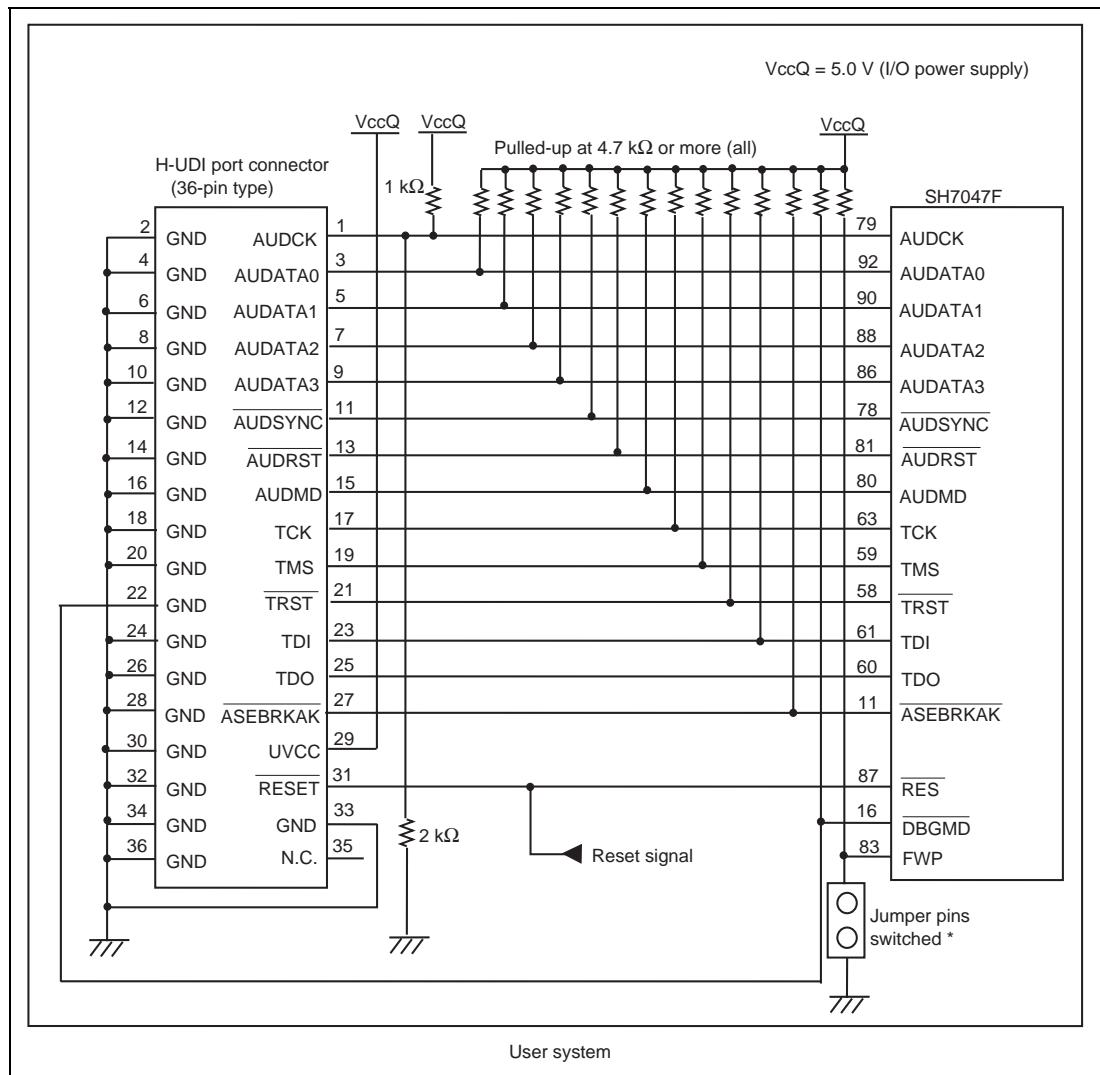
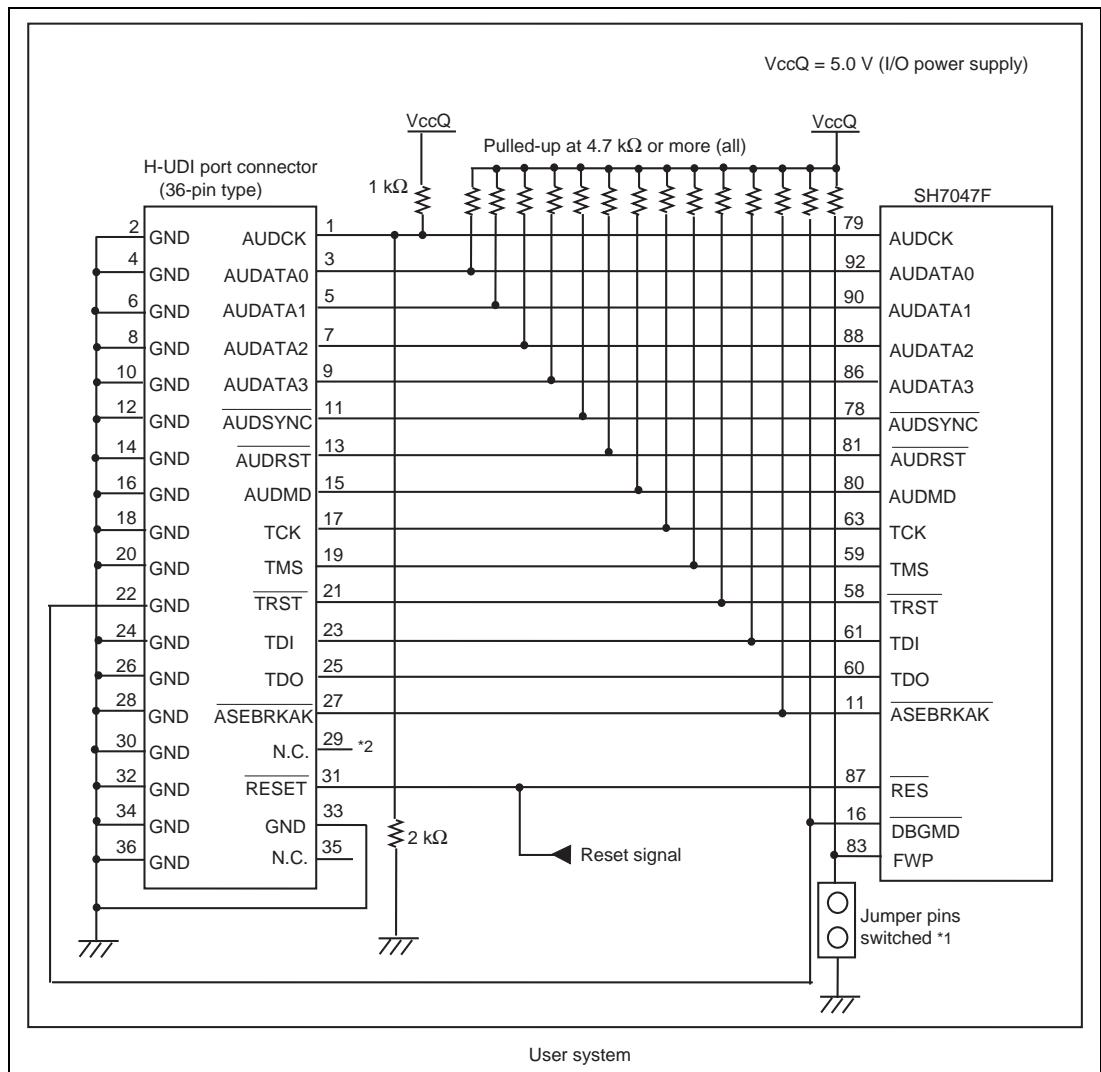

Figure 1.3 Recommended Circuit for Connection between the H-UDI Port Connector and MCU when the Emulator is in Use (36-Pin Type UVCC Connected)
Figure 1.4 Circuit for Connection between the H-UDI Port Connector and MCU when the Emulator is in Use (36-Pin Type UVCC Not Connected^{*2})
Figure 1.3 shows a recommended circuit for connection between the H-UDI and AUD port connectors (36 pins) and the MCU when the emulator is in use. Figure 1.4 shows a circuit for connection when UVCC is not connected.
- (1) When the emulator is used: /DBGMD = 0 (ASE mode)
- (2) When the emulator is not used: /DBGMD = 1 (normal mode)Figures 1.3 and 1.4 show examples of circuits that allow the /DBGMD pin to be GND (0) whenever the emulator is connected by using the user system interface cable. When the /DBGMD pin is changed by switches, etc., ground pin 22. Do not connect this pin to the /DBGMD pin.
7. When the power supply of the user system is turned off, supplying VccQ of the user system to the UVCC pin reduces the leakage current from the emulator to the user system. Buffers that can be activated by the internal power supply or user power supply (changed by the switch) are installed in the interface circuit of the emulator. If the user power is selected for supply to the UVCC pin, the buffers will not be activated unless supplied with user power. Thus no current flows from the user interface when the power supply of the user system is turned off. The I/O voltage level of the user system interface can be the same as that of the VccQ. To operate the emulator with low voltage (lower than 5.0 V), the VccQ must be supplied to the UVCC pin. Make the emulator's switch settings so that the VccQ will be supplied (SW2 = 1 and SW3 = 1) (as shown in figure 1.3).
8. The resistance values shown in figures 1.3 and 1.4 are recommended.
When the circuit is connected as shown in figure 1.3, the switches of the emulator are set as SW2 = 1 and SW3 = 1. For details, refer to section 3.8, Setting the DIP Switches, in the Debugger Part of the SuperH™ Family E10A-USB Emulator User's Manual.
When the circuit is connected as shown in figure 1.4, the switches of the emulator are set as SW2 = 0 and SW3 = 1. For details, refer to section 3.8, Setting the DIP Switches, in the Debugger Part of the SuperH™ Family E10A-USB Emulator User's Manual.